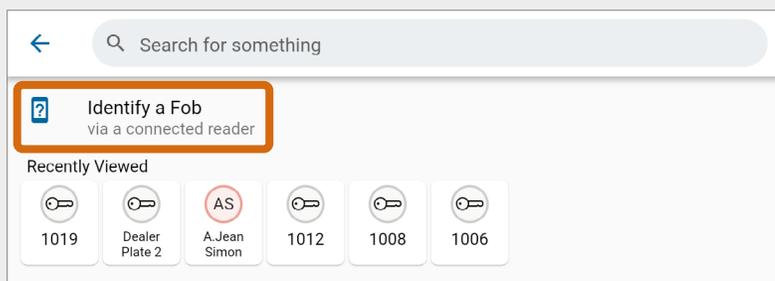

Fig. 52 – Search screen with Identify a Fob indicated
6. Click the **search bar**, as shown in Fig. 52.
8. Click **Identify a Fob**, as shown in Fig. 52.